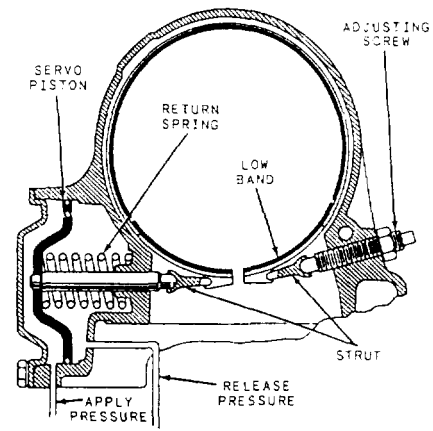

Figure 7-20.—Lockup band actuated by hydraulic pressure.
1. The planetary holding devices are all actuated by hydraulic pressure from hydraulic slave systems (fig. 7-20).